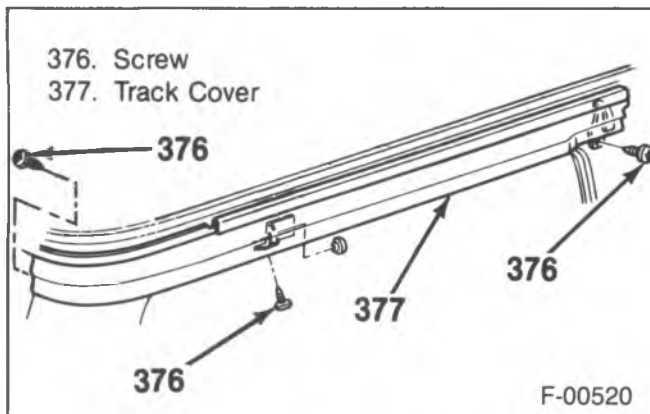

Figure 85—Upper Track Cover
↔ Remove or Disconnect (Figures 85 through 89)
↔ Install or Connect (Figures 85 through 89)
- Hinge cover (figure 85).
7. Hinge cover (figure 85).